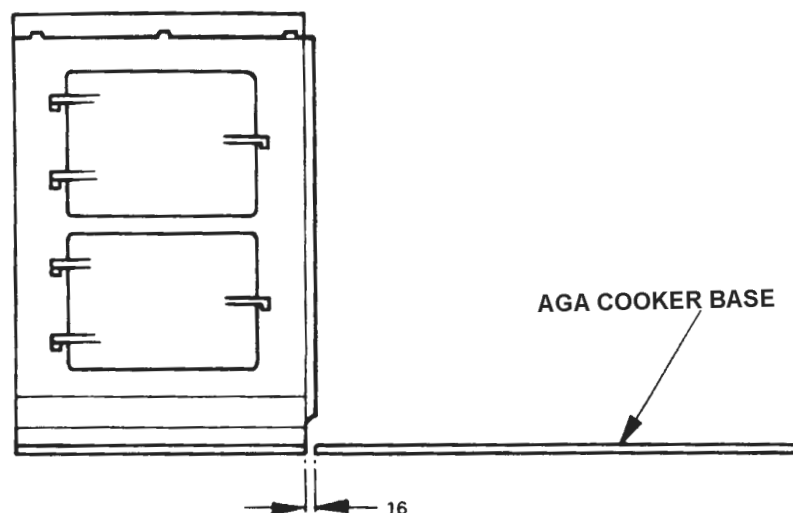

Fig. 9.4
1. Position the cooker alongside the main AGA baseplate leaving 16mm between the two bases (See **Fig. 9.4**). Check with a spirit level that the front plate is vertical and the ovens level. Shim under the module base if necessary.